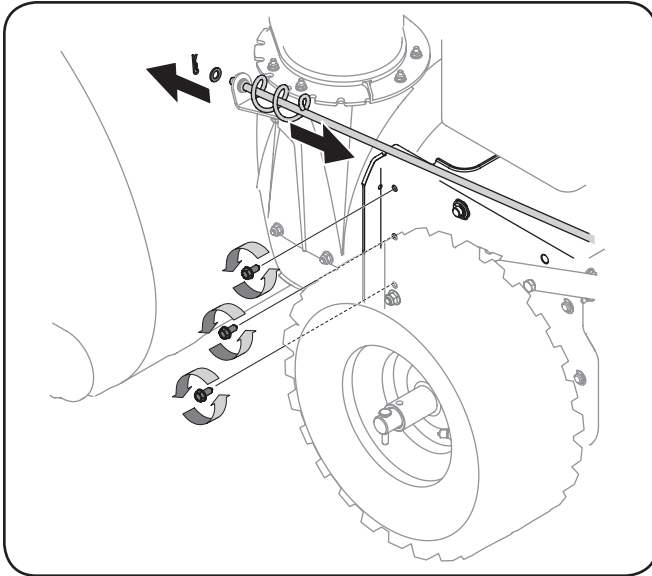

Figure 8-1
1. Disconnect the chute crank assembly at the discharge chute end by removing the hairpin clip and the flat washer. Refer to Fig. 8-1.
7. From both sides of the frame assembly, use a 1/2" wrench to remove the three hex tap screws securing the transmission frame to the auger housing assembly. Refer to Fig. 8-1. **NOTE:** Do not remove the lower hex flange lock nut on each side.